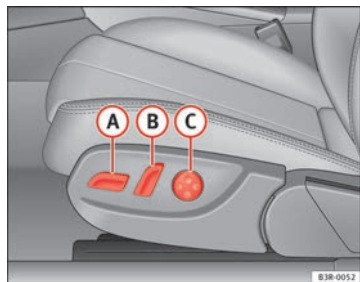
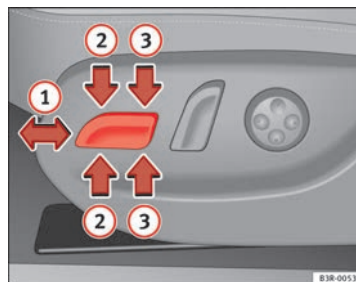

Fig. 106 Front seat: Adjuster controls
Fig. 107 Front seat: Seat adjustment switches
- Press switch **A** ⇒ Fig. 106 forwards or backwards **1** ⇒ Fig. 107 ⇒ **△**.